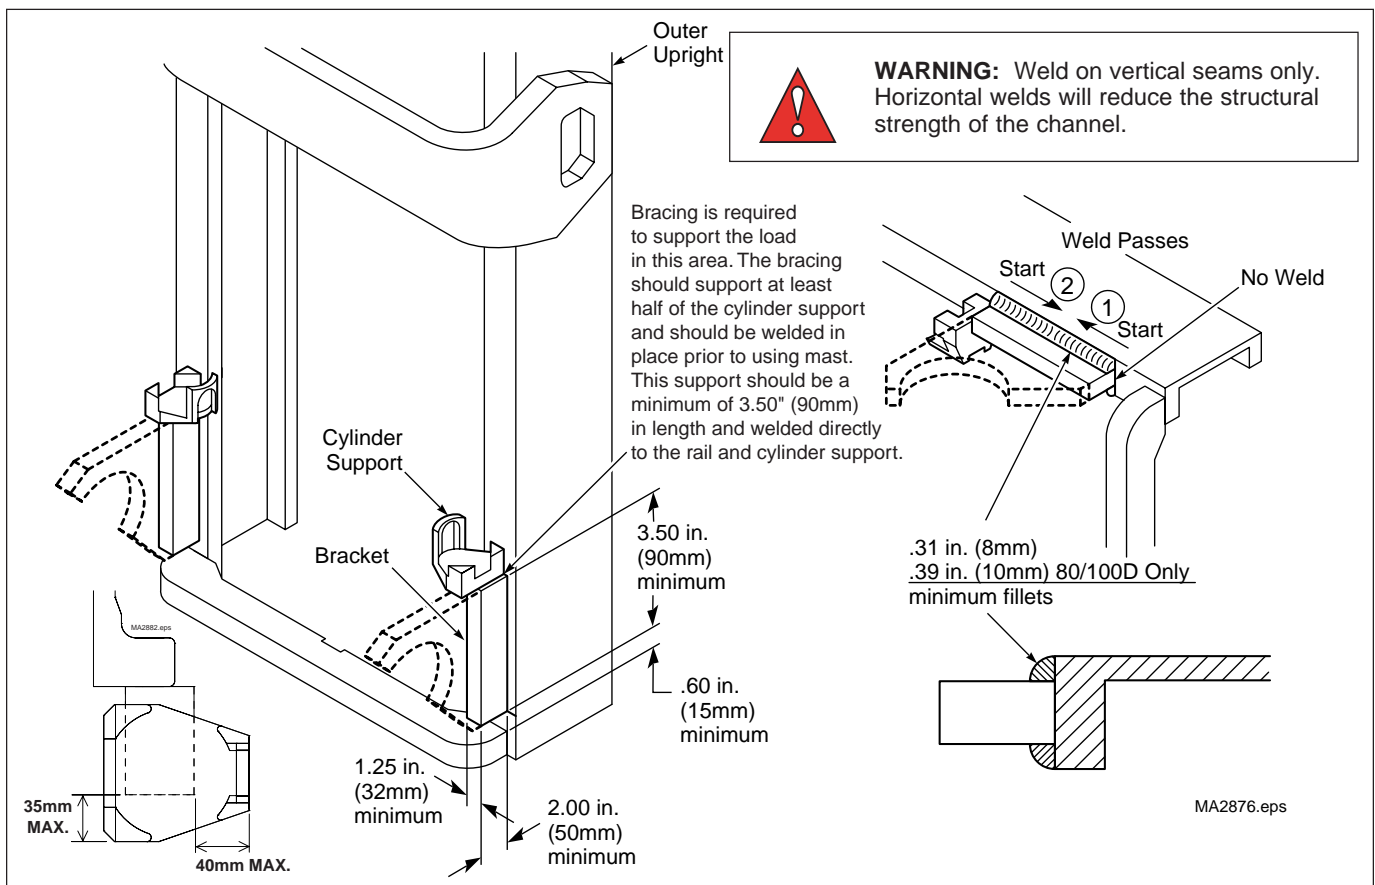

Figure 1. Lower Mounting Brackets
3. Locate the lower mounting brackets on the mast rails. Clamp in place with "C" clamps. Protect the mast rail inner surfaces from weld splatter with fiberglass cloth. See Figure 1.
WARNING: Weld areas that will be vertical seams when the mast is standing upright only. **DO NOT WELD ANY HORIZONTAL SEAMS. SEE FIGURES 1 and 2.**
7. Weld in the horizontal position only. Weld each bracket in two passes. See Figures 1 and 2. Run the first weld from the bottom of the bracket to midpoint. Run the second weld from the top of the bracket to midpoint and overlap the first weld to eliminate arc craters.